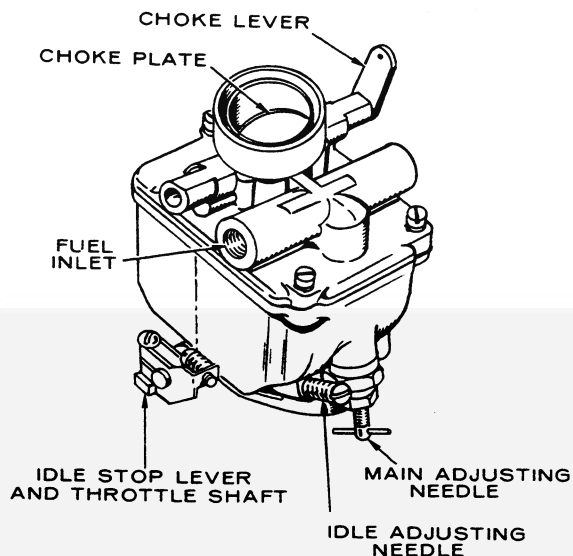

FIGURE 17. GASOLINE IDLE ADJUSTMENT
The carburetor has an idle jet and a main jet. The adjustable, idle jet affects engine operation at no-load speed. The main jet adjustment affects operation under load or high speed. Under normal circumstances, factory carburetor adjustments should not be disturbed. If the idle adjustment has been disturbed, turn the main adjustment needle clockwise until it gently seats, then turn it counterclockwise off its seat 1 to 1-1/2 turns to permit starting the engine (Figure 17), then readjust as follows:
3. Turn the idle needle out (counterclockwise) until engine begins to slow down or run unevenly. Remember this position; see Figure 17.
If engine runs unevenly under load due to faulty carburetion, the main adjusting needle may need readjustment (Figure 17).